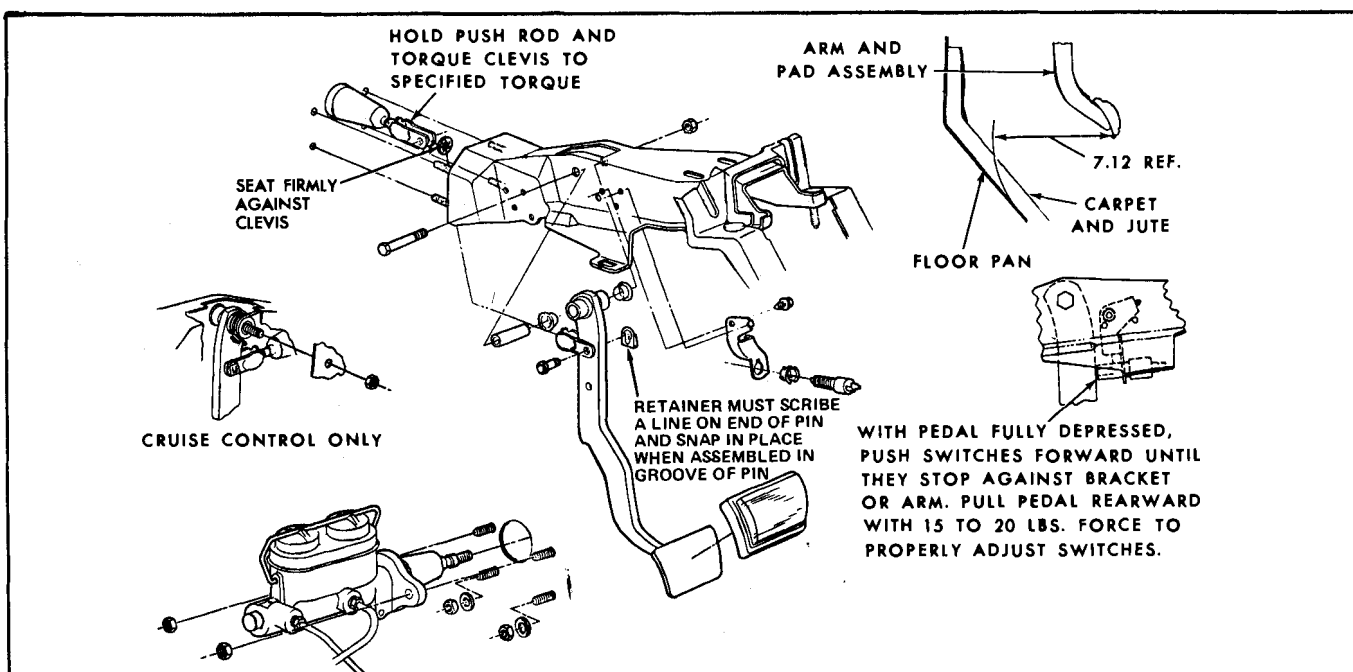

Fig. 5-5 A Series Manual Brake System
1. A, X, F and G Series - Remove brake pedal clevis pin retainer and pin (Figs. 5-5, 5-6, 5-7, 5-8, 5-9).
NOTE: Manual brake pedals on A Series vehicles with cruise control have a return spring on the pedal hub (Fig. 5-5).